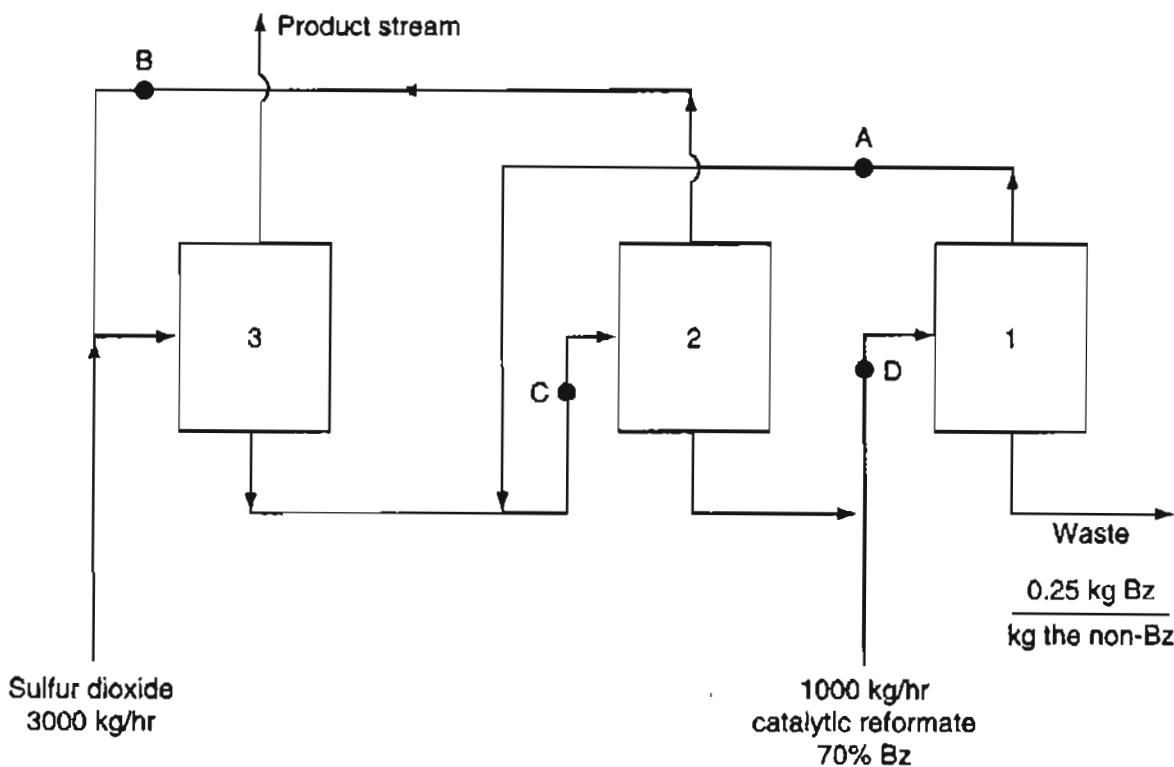

Figure P12.13
*****12.13** Benzene, toluene and other aromatic compounds can be recovered by solvent extraction with sulfur dioxide. As an example, a catalytic reformate stream containing 70% by weight benzene and 30% non-benzene material is passed through the counter-current extractive recovery scheme shown in the diagram in Figure P12.13. One thousand kg of the reformate stream and 3000 kg of sulfur dioxide are fed to the system per hour. The benzene product steam contains 0.15 kg of sulfur dioxide per kg of benzene. The waste steam contains all the initially charged non-benzene material as well as 0.25 kg of benzene per kg of the non-benzene material. The remaining component in the waste steam is the sulfur dioxide.